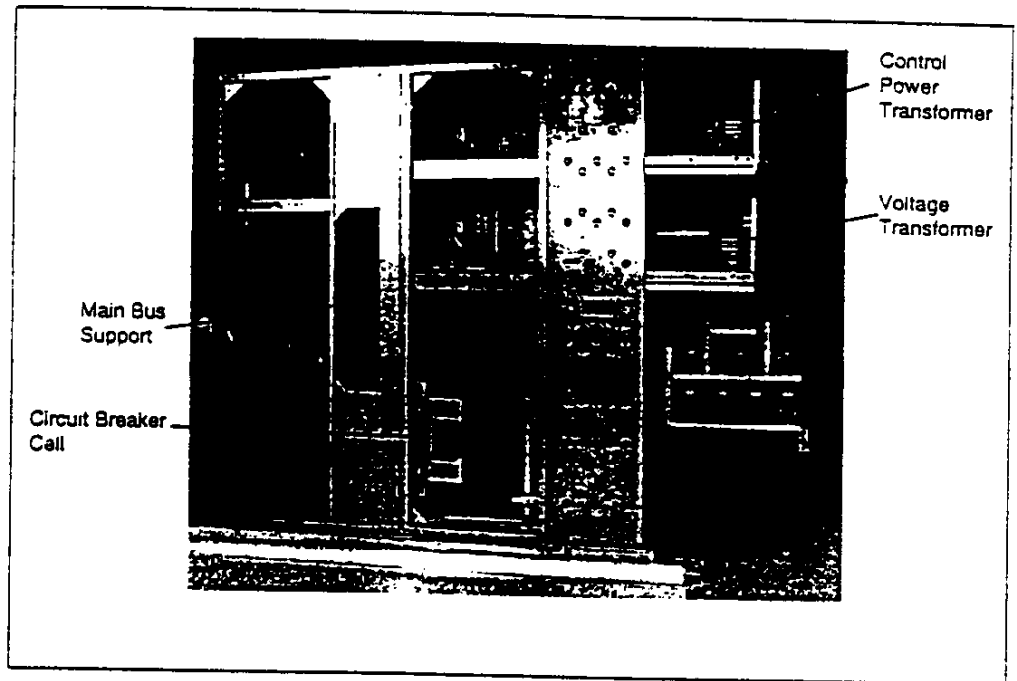

Figure 11: Drawout units in withdrawn position
The voltage transformer (VT), control power transformer (CPT), and fuse drawout units are self-contained drawers (figure 11, page 15) which roll on two sliding extension rails from the *disconnected* to the *connected* position. The drawer front panel is recessed behind the front door in the *connected* position. It is held in place by two thumbscrews.